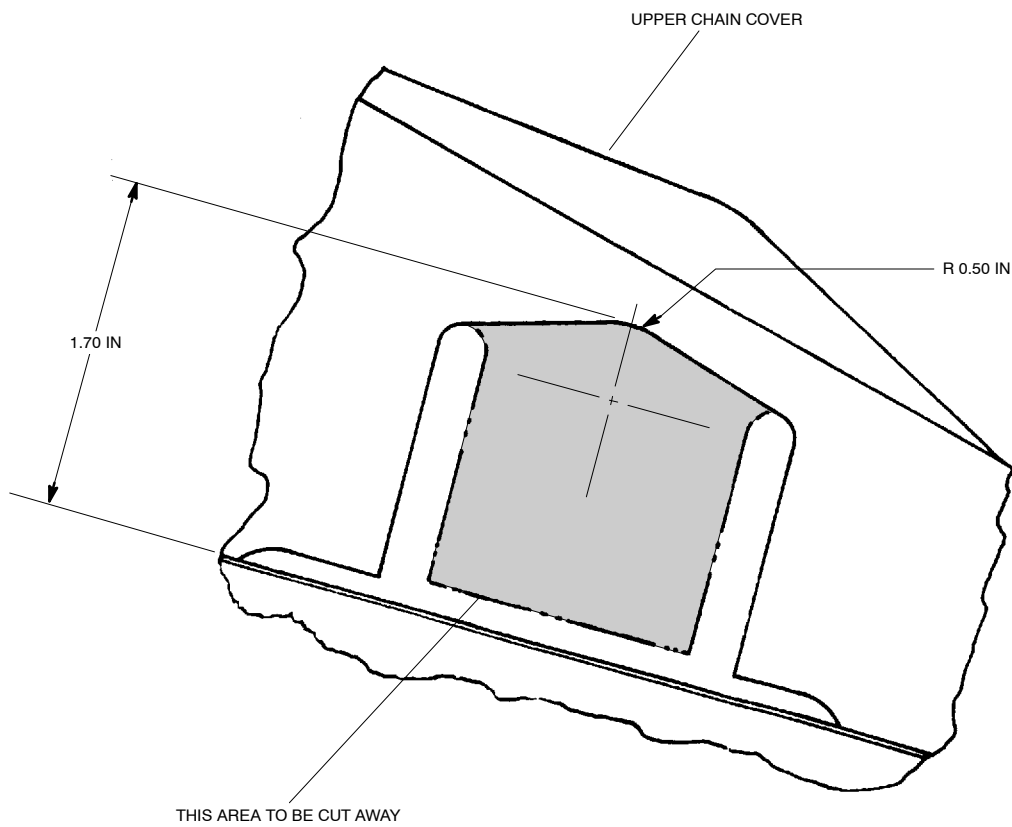
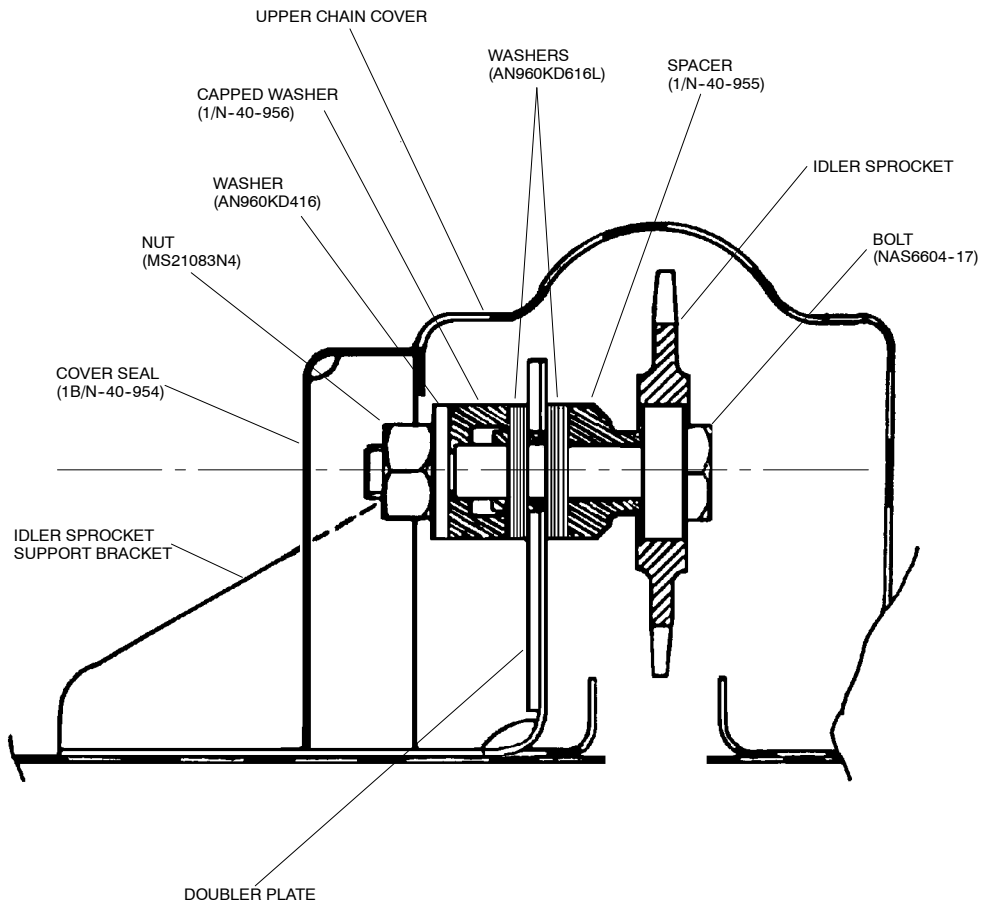
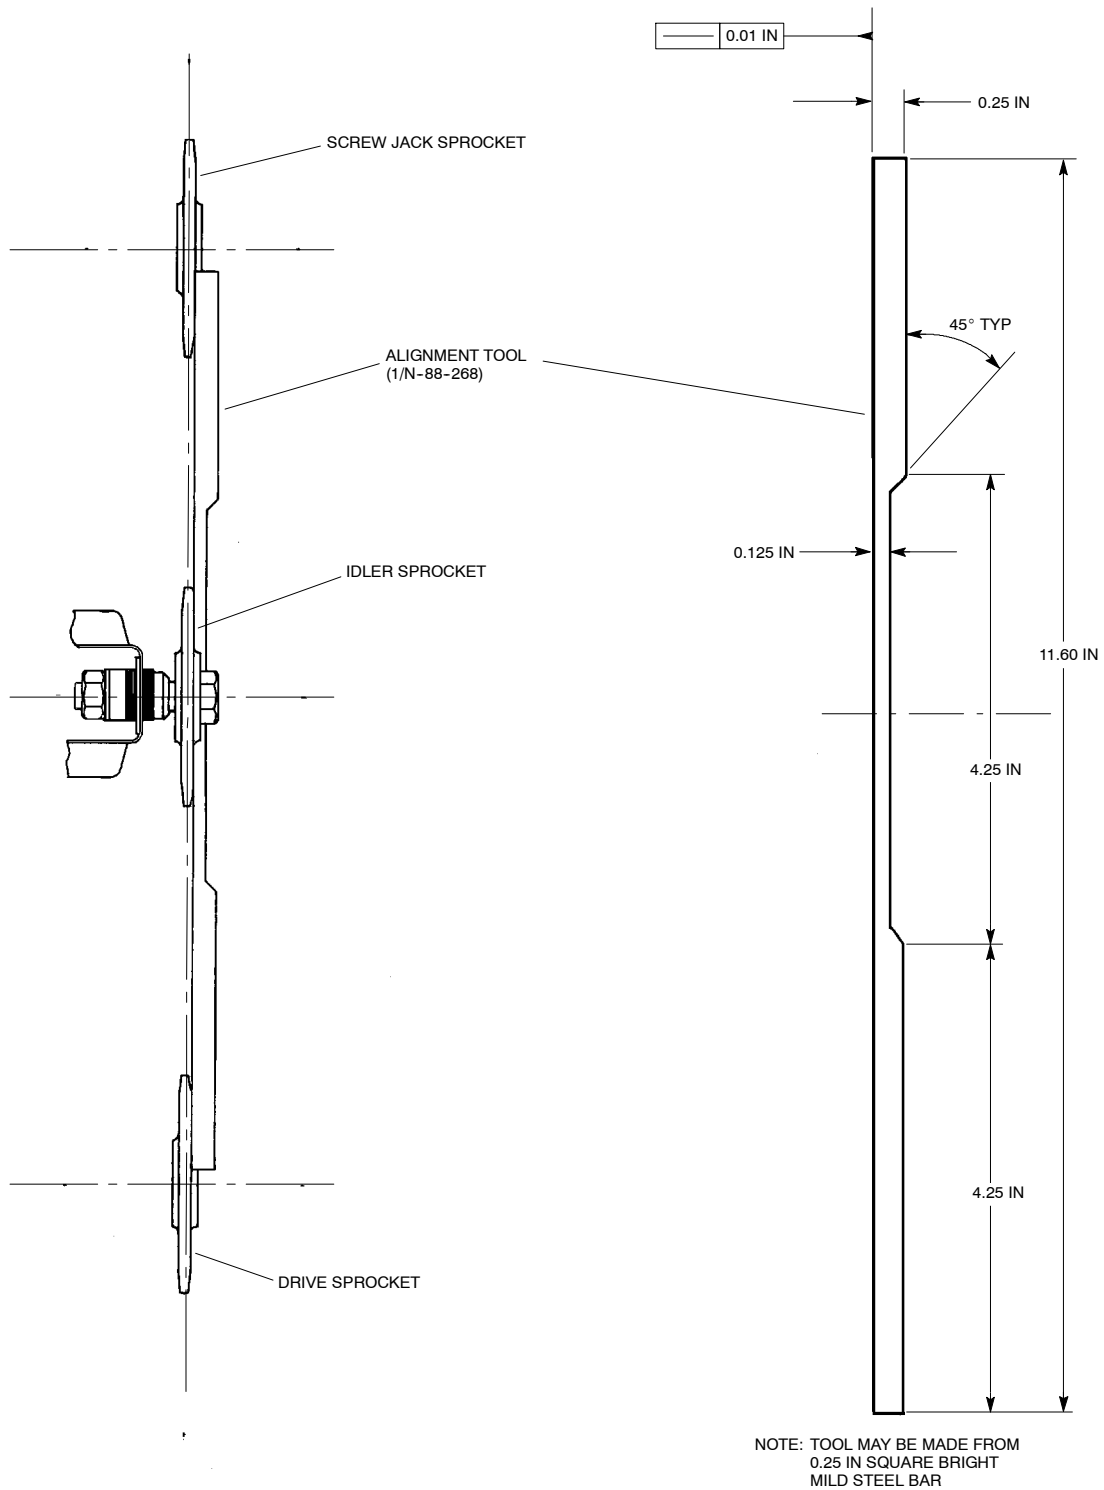

Figure 1 Rework to Chain Cover
Figure 2 Assembly of Idler Sprocket
Figure 3 Use of Alignment Tool (1/N-88-268)
- (1) Jack up aircraft until the wheels are at least 2.5 in clear of the ground (Ref MM Chap 7-00-00).
- (2) Ensure that the landing gear ACT, IND and CONT circuit breakers are tripped and the BATTERY switch is set to OFF.
- (3) Remove existing upper chain cover PN 1A/N-03-715, or 1/N-40-949 or 2/N-40-949 (Ref MM Chap 32-30-12).
- (4) Inspect idler sprocket for lateral misalignment using tool 1/N-88-268 (Ref Figure 3) or similar. If idler sprocket is within ± 0.020 in of the drive sprocket lateral position, alignment is acceptable. If lateral alignment is outside this limit and rectification is not possible by normal means, (i.e. repair/rework to the idler sprocket mounting bracket), install Mod N840 as detailed in Para 2.B. below, at the next scheduled inspection of the Nose Landing Gear Chain or at the next 300 hour check, whichever occurs first.
- (3) Remove existing upper chain cover PN 1A/N-03-715, or 1/N-40-949 or 2/N-40-949 (Ref MM Chap 32-30-12) and rework as shown in Figure 1. Deburr edges and apply primer. Re-part number 1A/N-40-954.
- (4) Disassemble the idler sprocket assembly and discard the spacer (1/N-40-863), bolt (AN174-13A), washer (AN970-4) and nut (MS21083N4).
- (5) Refit the idler sprocket assembly to the mounting bracket using new bolt (NAS6604-17), spacer (1/N-40-955), cap washer (1/N-40-956), flat washers (AN960KD616L), washer (AN960KD416) and nut (MS21083N3) as shown in Figure 2. Using alignment tool (1/N-88-268), (Ref Fig 3) align the idler sprocket assembly with respect to the screwjack sprocket and drive sprocket using the above thin washers. Washers removed from one side of the mounting bracket are to be added to the opposite side to ensure bolt clamp-up. Alignment within 0.008 in (i.e. half the thickness of an AN960KD616L adjustment washer) should be achievable.
- (6) Adjust the idler sprocket assembly and tension the chain in accordance with MM Chap 32-30-12. Check for adequate clearance between chain and adjacent structure.
- (7) Refit the chain cover. Attach cover seal (1B/N-40-954) with Silastic RTV731, or RTV140, or RTV734 or PR1422. Seal all gaps between the chain cover and the idler sprocket mounting bracket with a bead of the above sealant.
- (8) Reset circuit breakers, set BATTERY switch ON and carry out landing gear retraction test in accordance with MM Chap 32-30-00.
- (9) Set BATTERY switch to OFF and lower aircraft to the ground (Ref Chap 7-00-00).
Alignment tool 1/N-88-268 may be manufactured as per Figure 3.